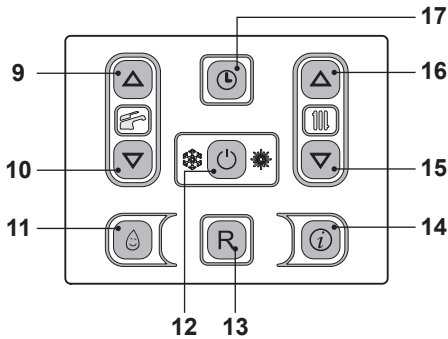
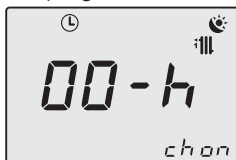

Fig. 2.16
Fig. 2.18
Press keys 15 and 16 (Fig. 2.16) at the same time for 2 seconds to enter programme menu (Fig. 2.17).
Press key 12 (Fig. 2.16) to modify the function status: (12 scrolls through Menu **oFF**, **ch on**, **ch oFF**) Fig. 2.18.
Press keys 9 or 10 (Fig. 2.16) to programme the forced heating function Minimum 1 hour to Maximum 30 days (The above example has been set for **ch on** for 1 day) (Fig. 2.19).
To exit programming without making any changes press keys 15 and 16 (Fig. 2.16) at same time for 2 seconds.
Hold down keys 15 and 16 (Fig. 2.16) at the same time for 2 seconds until the remaining time and status of the programme appears on the LCD display.
Press key 12 (Fig. 2.16) to modify the status to "oFF".
To exit programming without making any changes press key 15 and 16 (Fig. 2.16) at the same time for 2 seconds or wait 60 seconds.